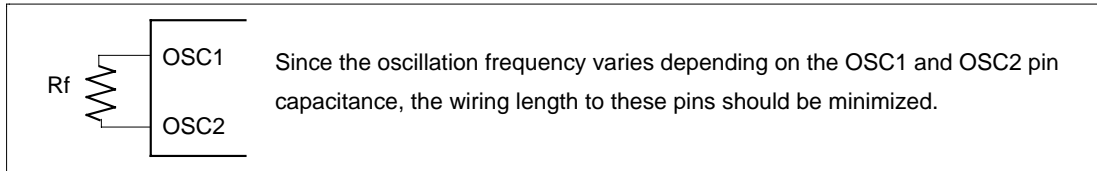

Figure 44 Internal Oscillation
11. Applies to the internal oscillator operations using external oscillation resistor R_f (figure 44 and table 28).